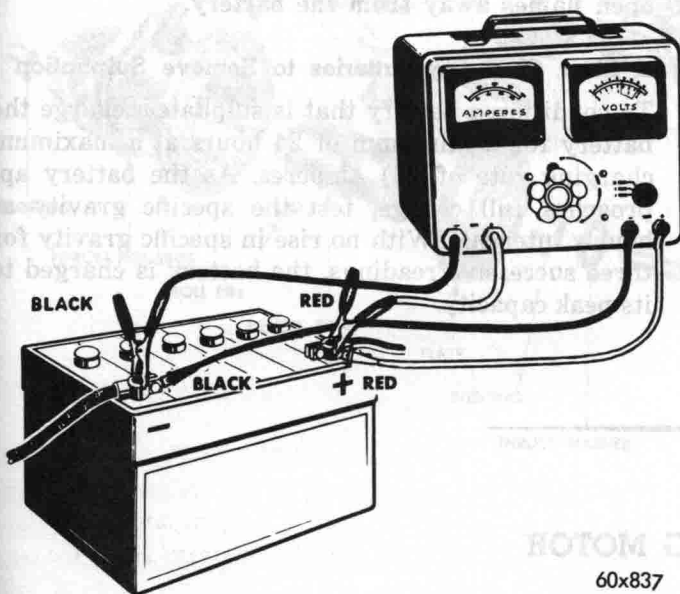

Fig. 4—High Rate Discharge Test
(1) Turn control knob of battery starter tester to the OFF position.
(2) Turn voltmeter selector switch to the 16 volt position.
(3) Connect test ammeter and voltmeter positive leads to battery negative terminal and ammeter and voltmeter negative leads to battery positive terminal (Fig. 4).
(4) Turn control knob clockwise until ammeter reading is equal to three times the ampere hour rating of the battery (180 amperes for a 60 ampere hour battery).
(5) Maintain load for 15 seconds, voltmeter should read 9.5 volts or more, which will indicate battery has good output capacity.
(6) Turn control knob to the OFF position.